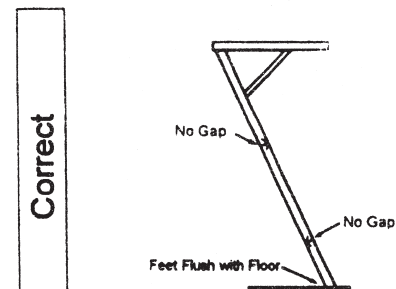
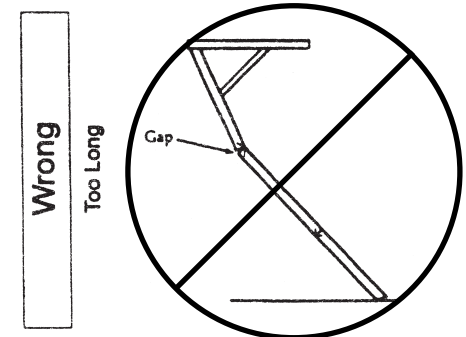
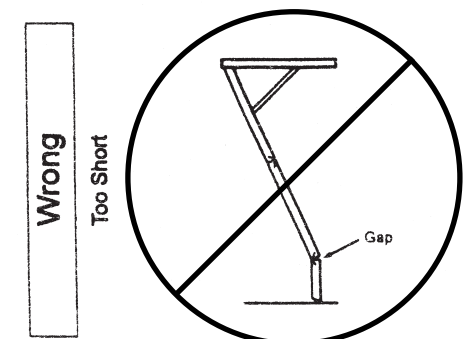

Fig. 8
Fig. 9
Fig. 10
- Step 5** Check to make sure the stairs fit flush with the floor and that all joints are tight with no gaps (Fig. 8). If the stairs are too long (Fig. 9), trim them again. If the stairs are too short (Fig. 10), do not use them. Contact your vendor or The Marwin Company.